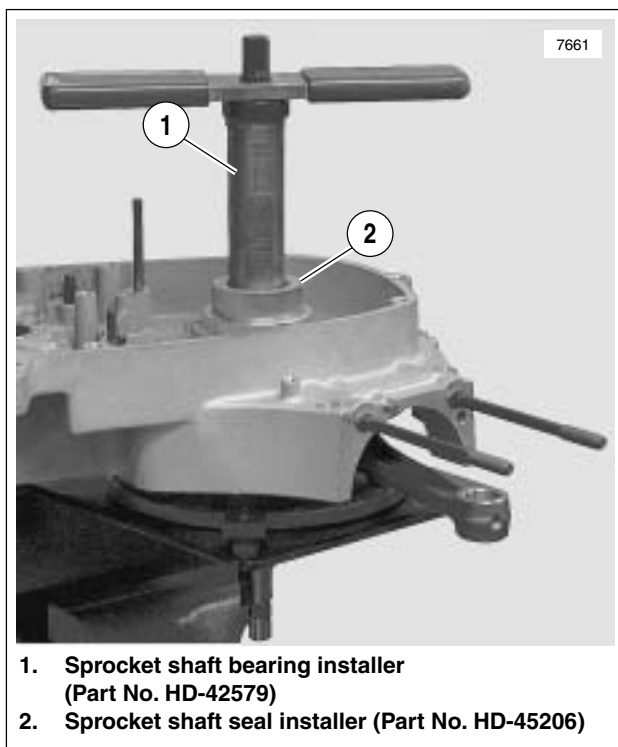

Figure 3-131. Installing Sprocket Shaft Oil Seal/Spacer
10. See Figure 3-131. Install **new** spacer in seal ID. With the open (lipped) side facing outward, center seal/spacer assembly over bearing bore.